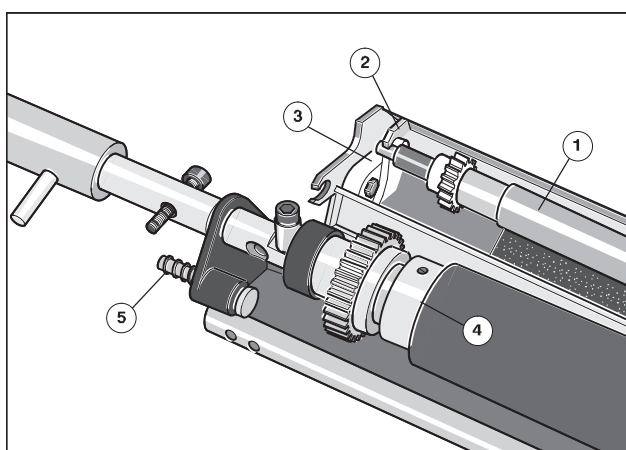

Fig. 60 Replacing the metering roller
1. Pull the metering roller (Fig. 60/1) on D.S. and O.S. against the safety lever (Fig. 60/2) remove from the plastic bearing (Fig. 60/3).
2. Place new metering roller on the two plastic bearings (Fig. 60/3) and press in the bearings. The safety levers (Fig. 60/2) lock the metering roller in the bearing.
4. Align the gaskets (Fig. 60/4) at the washup roller so that the radius lies at the metering roller.
5. Press in the pins on O.S. (Fig. 60/5) and D.S. and let washing fluid trough engage at the pins.